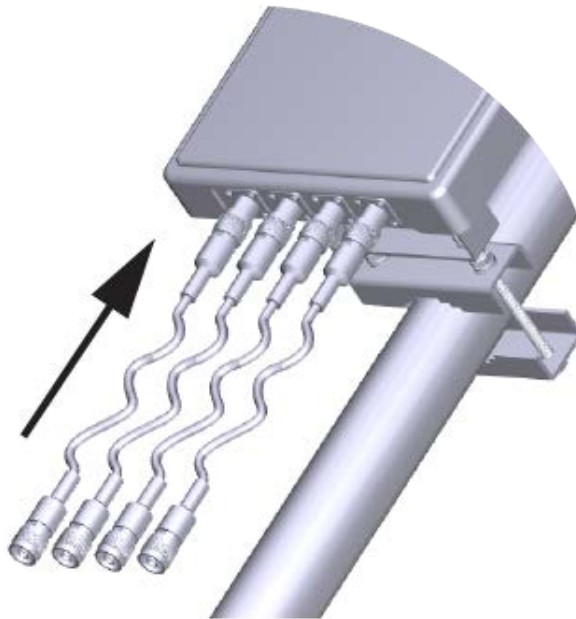

Figure 42. Attaching the Cables to the Antenna Connectors
3. Screw the cables to the antenna connectors. See Figure 42.